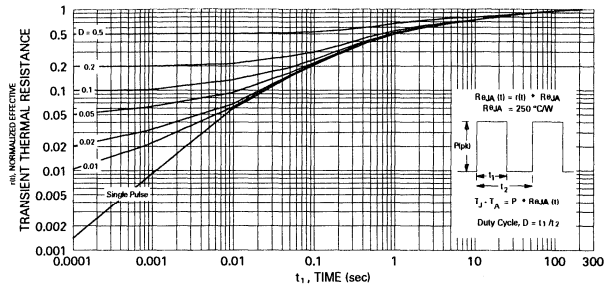

Figure 14b. Normalized $r(t)$ for NDS351N
To further simplify this calculation, the bracketed expression in equation (G) has been plotted for all National Semiconductor Power MOSFETs, as exemplified by the plot of $Z_{\theta JC}$ in Figure 14b. From this curve, one can readily calculate T_J if one knows P_M , $Z_{\theta JC}$ and T_C using the expression:
From Figure 14b: $Z_{\theta JC} = 0.14 \times 250^\circ\text{C/W} = 35^\circ\text{C/W}$